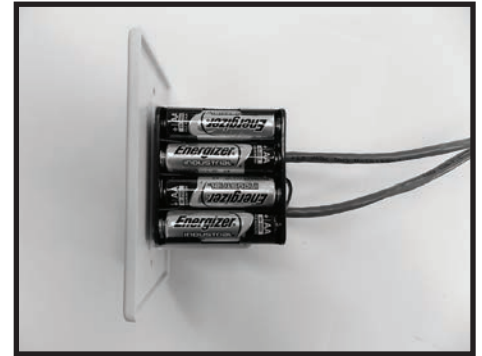

Figure 27: Wall switch - battery side.
8. Insert the 4 supplied "AA" batteries into the battery pack of the wall switch. (Figure 27).